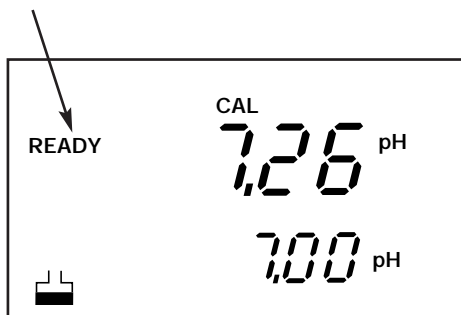

Figure 13
7. Wait for the measured pH value to stabilize (when the **READY** indicator displays in the left hand corner) —See Figure 13.